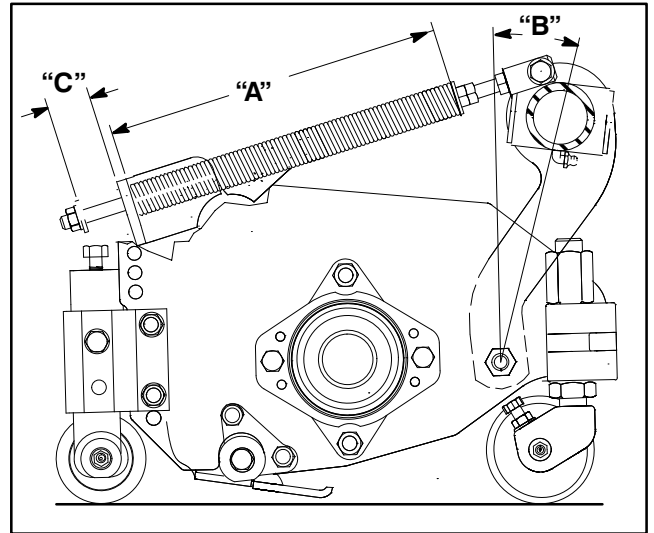

Figure 6
The Turf Compensation Spring (Fig. 6), connecting carrier frame to cutting unit, controls the amount of fore-aft rotation available, as well as the amount of ground clearance in transport and turn around.
1. Tighten lock nut on rear of spring rod until the gap (C) between rear of spring bracket and front of washer is 1-1/2" (38 mm) (Fig. 6).
2. Tighten hex nuts on front end of spring rod until the compressed length (A) of spring is 8" (203 mm) (Fig. 6).
- NOTE:** When cutting rough or undulating turf, increase compressed length (A) of spring to 8-1/2" (216 mm)
and gap (C) between rear of spring bracket and front of washer to 2" (51 mm) To attain this adjustment, spring rod must be unthreaded from rod end approximately 1/2". (Fig. 6).